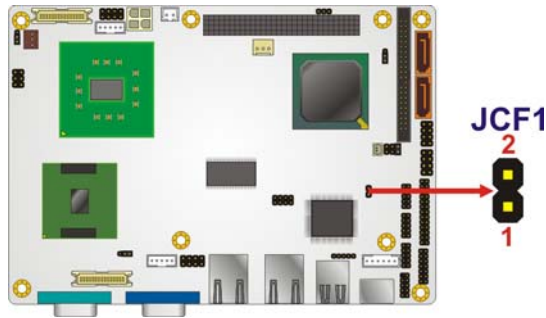

Figure 4-16: CF Card Setup Jumper Location
- Jumper Location:** See **Figure 4-16**
The CF Card Setup jumper location is shown in **Figure 4-16**.